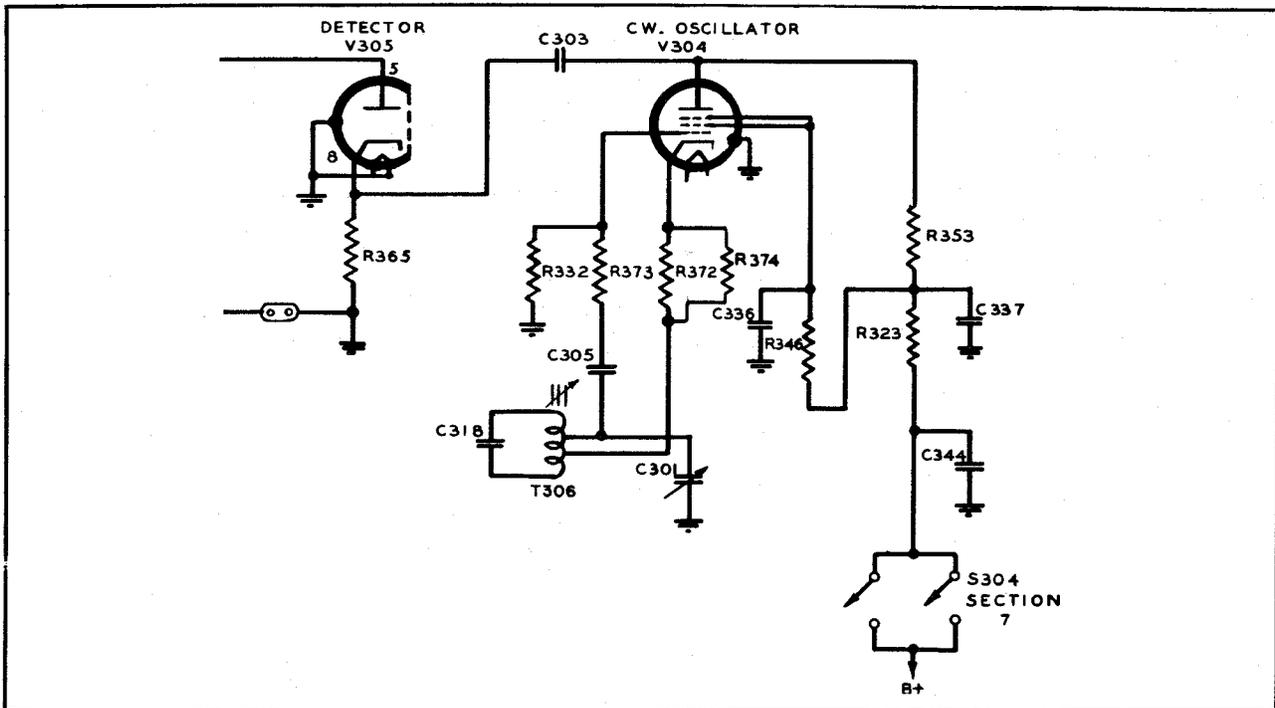

Figure 2-12. Simplified Schematic Diagram, CW Oscillator Circuit
l. CW OSCILLATOR.—For CW reception an oscillator stage, V304, provides a heterodyning frequency of 401 kilocycles, or 1,000 cycles higher than the intermediate frequency. A Hartley oscillator circuit is utilized for this stage, the plate output being electron-coupled to the screen grid. Output of V304 is fed through capacitor C303 to the cathode of the second detector, V305. The tuned circuit consists of transformer T306 and capacitor C318. Variable capacitor C301 provides for a variation of approximately 1,500 cycles from the oscillator frequency. Figure 2-12 is the simplified schematic diagram of the cw oscillator circuit.